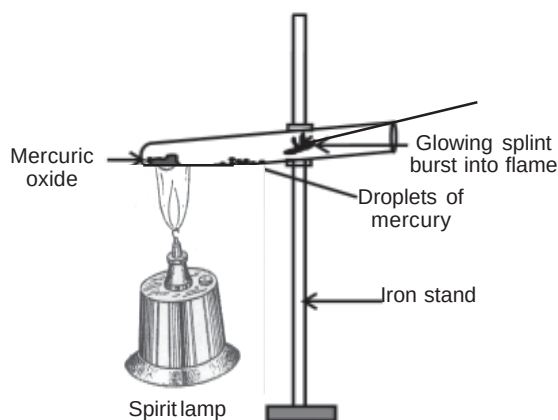

Fig. 2.11. Heating mercuric oxide.
- \* Clamp the test tube on an iron stand (Fig. 2.11)
Fig. 2.11, Fig. 2.11. Black and white balls represent different elements. In the middle figure they are simply mixed and remain side by side. But in the right figure, they have combined to form a compound.